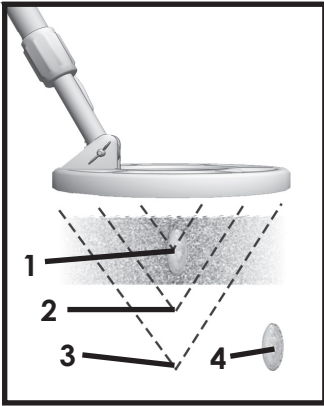

Figure 12. Searchcoil detection pattern.
11. Figure 12 on page 20 shows how the CZ-21 searchcoil pattern is affected by sweep speed, ground mineralization and search mode.